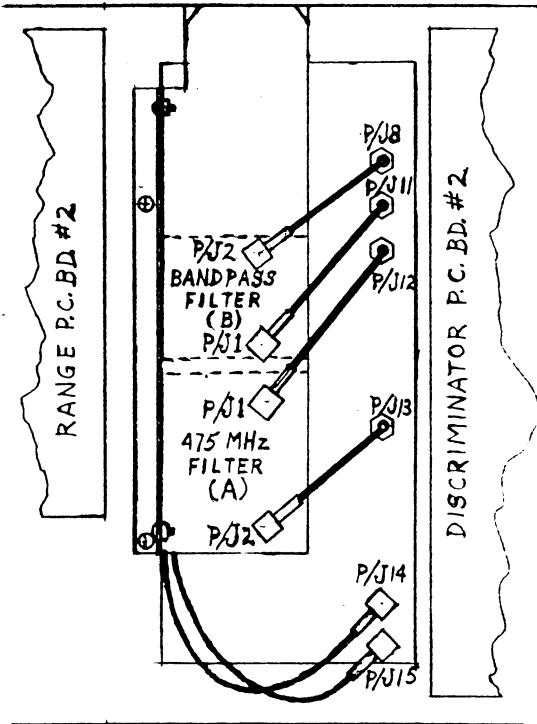

Figure 3-2 Filter Test Locations, 475 MHz Filter (A) and 570-775 MHz Bandpass Filter (B)
| 2.   | Refer to Figure 3-2. Filters A (475 MHz Filter) and B (Bandpass Filter) are located on bottom of Discriminator Board No. 1. Both are not bi-directional.    |
\*(Opposite end of connector shown in Figure 3-2)
11. Disconnect coax from 475 MHz Filter, J1 Input in Figure 3-2. Connect L-Band Sweep Generator to this connection.